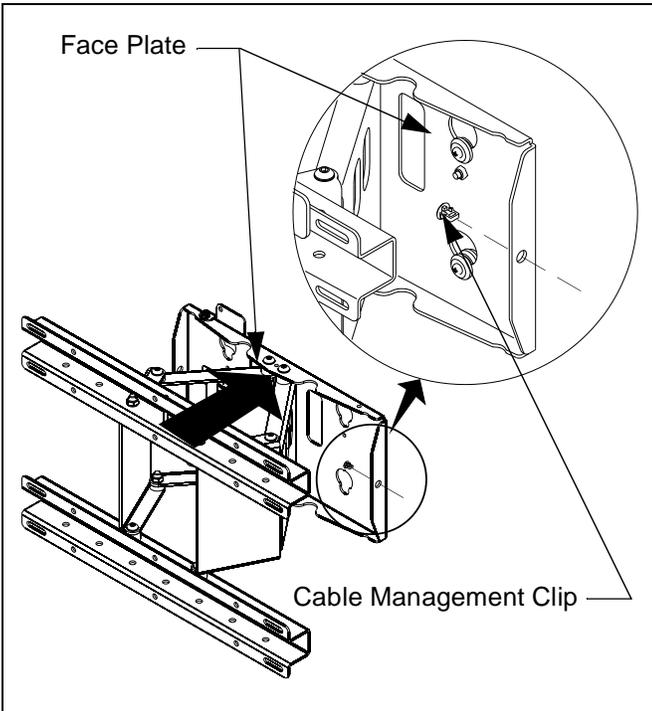

Figure 2: Install Cable Management Clips
2. Install two cable management clips (140) into each side of mount faceplate. (See Figure 2)